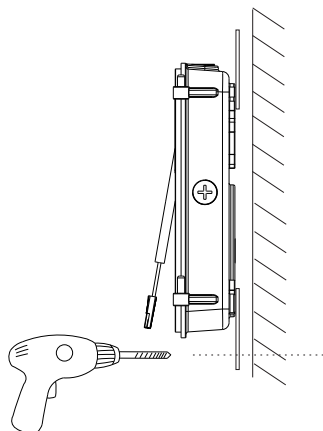

Fig. 2-2A
2. Rotate the three mounting kits to the proper angle. Put the fixture on the wall. Make 3 marks according to the 3 mounting kits, then drill three holes. (Fig. 2-2A)